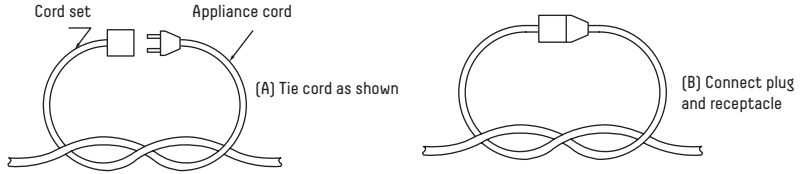

Fig. 3 Method of securing extension cord
- i) Make a knot as shown in Fig. 3.